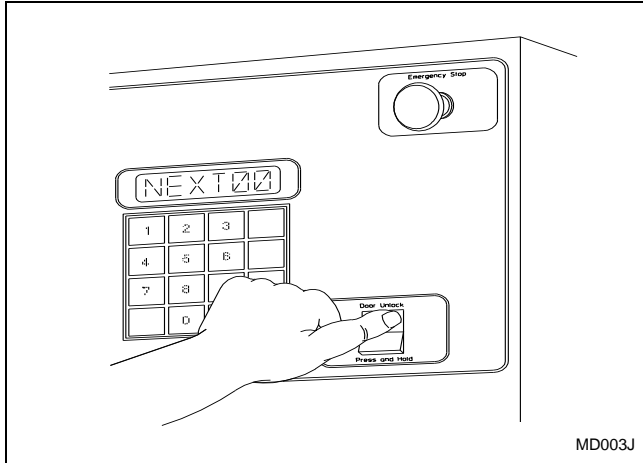

Figure 18
2. Use left hand to press and hold the Door Unlock button located on the lower right front of the control panel. Refer to *Figure 18*.